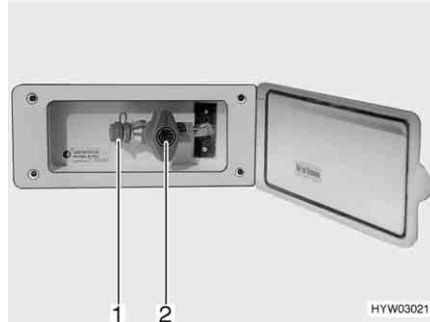

Fig. 124 External gas connection, gas isolator tap closed
The external gas connection (Fig. 124) is located at the rear or to the left or right of the vehicle depending on the model.
- Connect the external gas device to the connection point (Fig. 124,1).
- Open the gas isolator tap (Fig. 124,2).